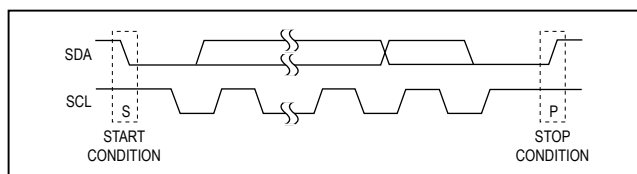

Figure 2. START and STOP Conditions
Each transmission consists of a START condition sent by a master, followed by the MAX7321's 7-bit slave address plus $R/\overline{W}$ bit, 1 or more data bytes, and finally a STOP condition (Figure 2).
Both SCL and SDA remain high when the interface is not busy. A master signals the beginning of a transmission with a START (S) condition by transitioning SDA from high to low while SCL is high. When the master has finished communicating with the slave, the master issues a STOP (P) condition by transitioning SDA from low to high while SCL is high. The bus is then free for another transmission (Figure 2).